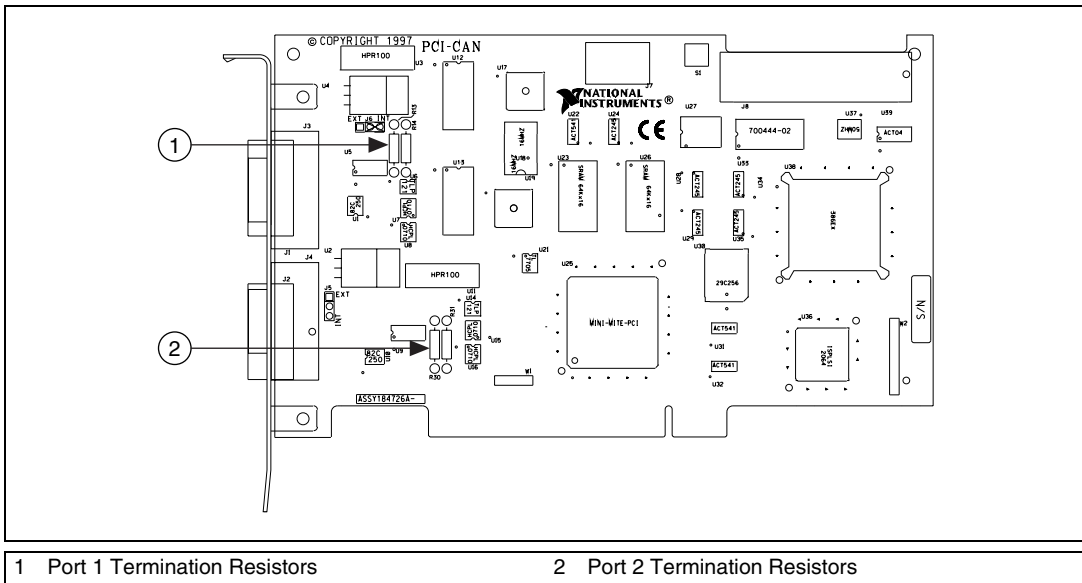

Figure C-7. Location of Termination Resistors on PCI-CAN/LS2 Board
1. Remove the termination resistors on your low-speed CAN card. Figure C-7 shows the location of the termination resistor sockets on a PCI-CAN/LS2 card.